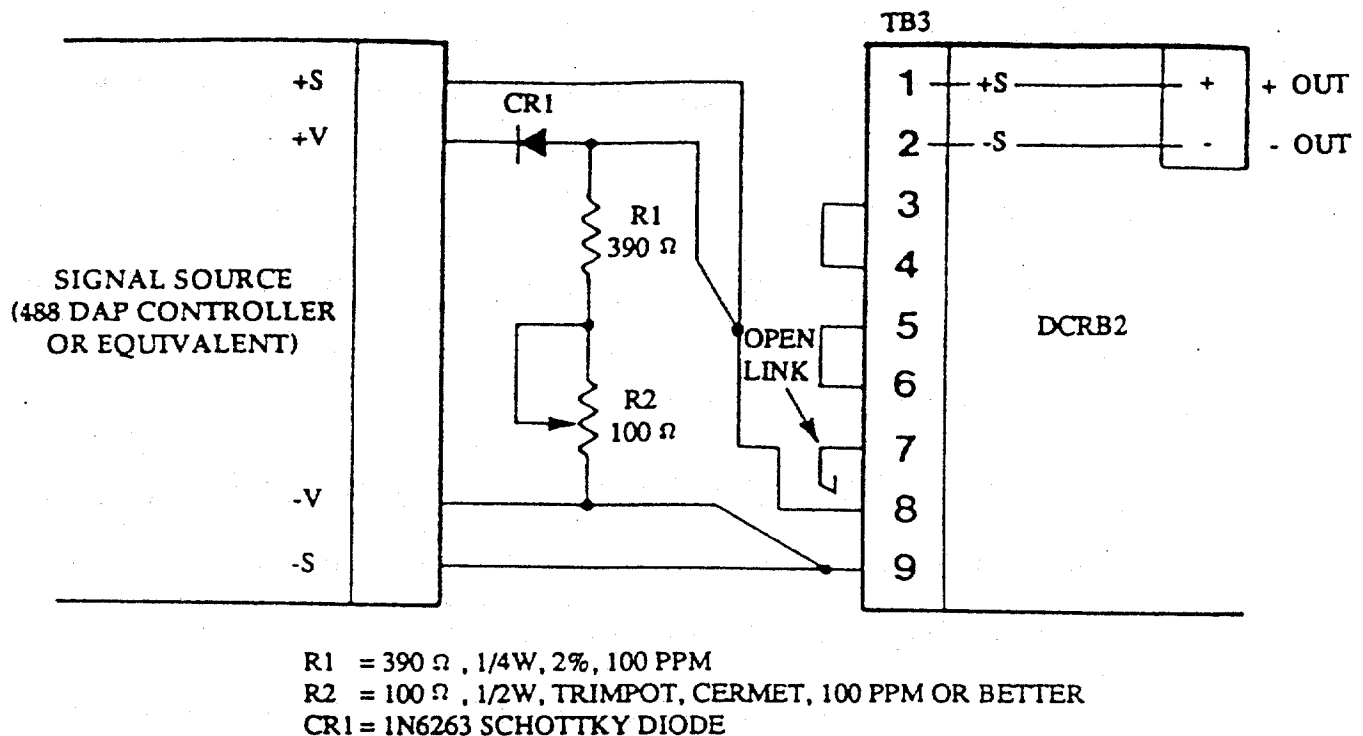

Figure 3-7 DCR-B2 Interconnections (Current Programming, 0-400 mV Range)
Figure 3-7 illustrates unit interconnection for the DCR-B2 power supply series.
9. Set external pot (R2 in Figure 3-7) to obtain 115% of rated DCR-B2 output current.